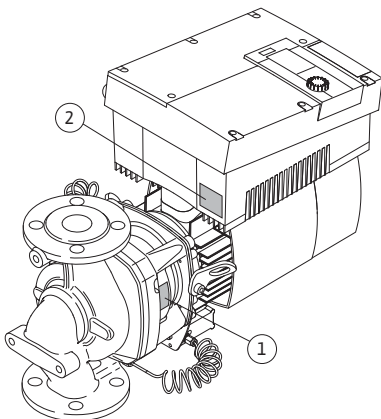

Fig. 11: Arrangement of the rating plates: Pump rating plate, electronic module rating plate
- The pump rating plate (Fig. 11, Item 1) includes the serial number (Ser.-No.../...), which is, for example, required for spare parts ordering.
- The electronic module rating plate (electronic module = inverter or frequency converter) (Fig. 11, Item 2) indicates the designation electronic module being used.